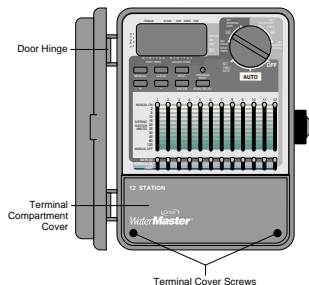

FIGURE 3: Outdoor Controller, Showing Terminal Cover
- Take off the terminal compartment cover by unscrewing the two screws and pulling the plastic cover straight forward [See Figure 3].